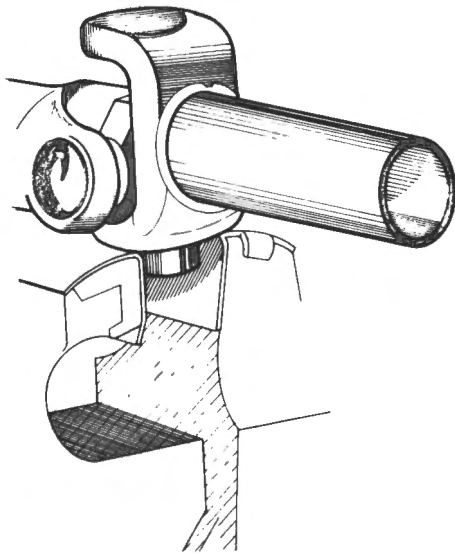

Fig. N-4
- 4 Clamp the partially exposed bearing in a soft jawed vice (Fig. N-4) and drive the yoke upwards until the bearing is removed.